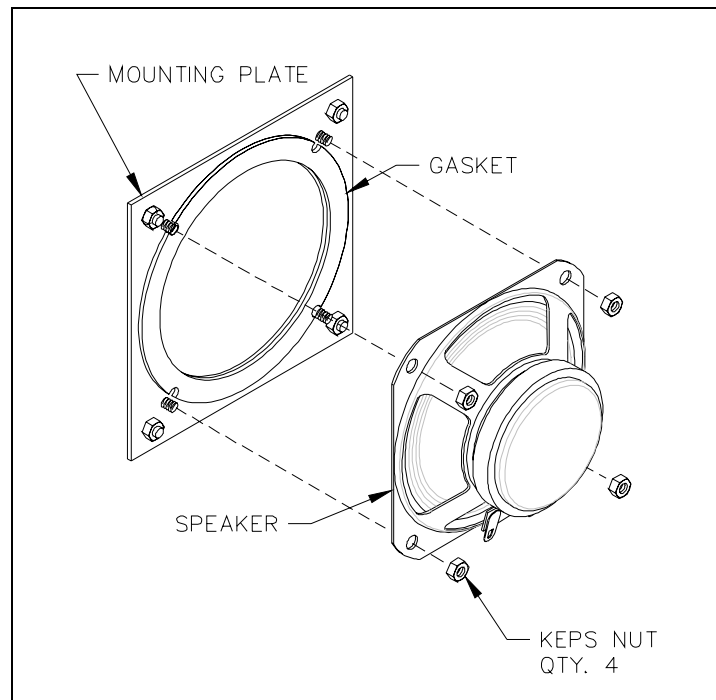

Figure 1. Models 297-xxx and 298-xxx
5. Remove the four 6-32 Keps nuts attaching the speaker to the speaker-mounting plate. Refer to Figure 1.